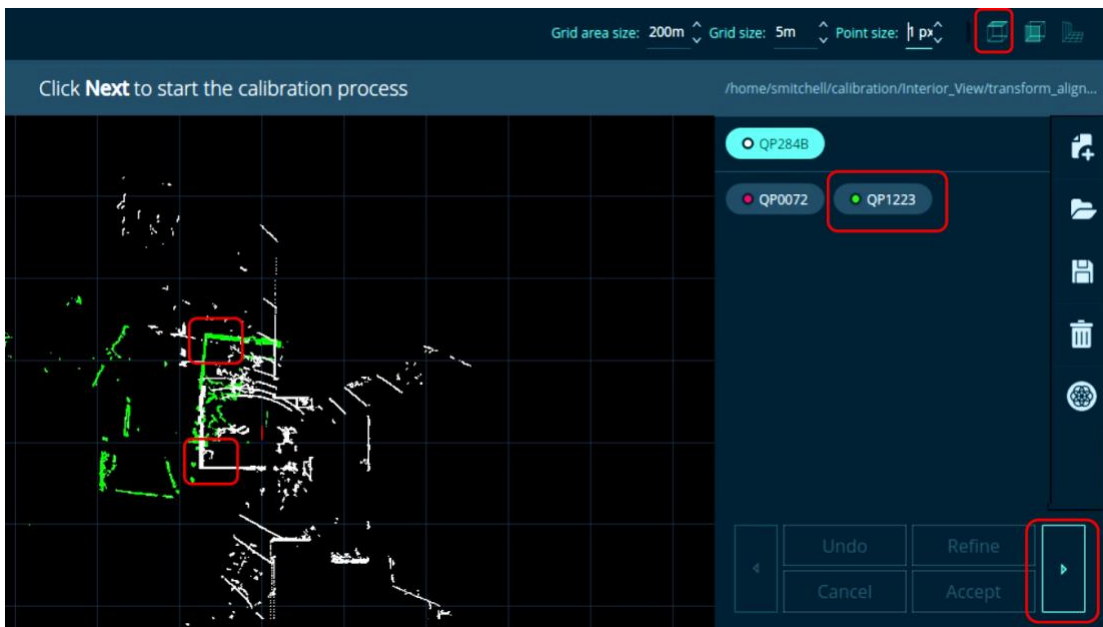

Figure 56. Calibrate Tab: Second Sensor (green) Calibrate to First Sensor (white)
1. Click a **Second Sensor** button to calibrate it to the first sensor. The second sensor has a **green** point cloud, which is overlaid on the **First Sensor white** point cloud. See Figure 56. Calibrate Tab: Second Sensor \(green\) Calibrate to First Sensor \(white\).